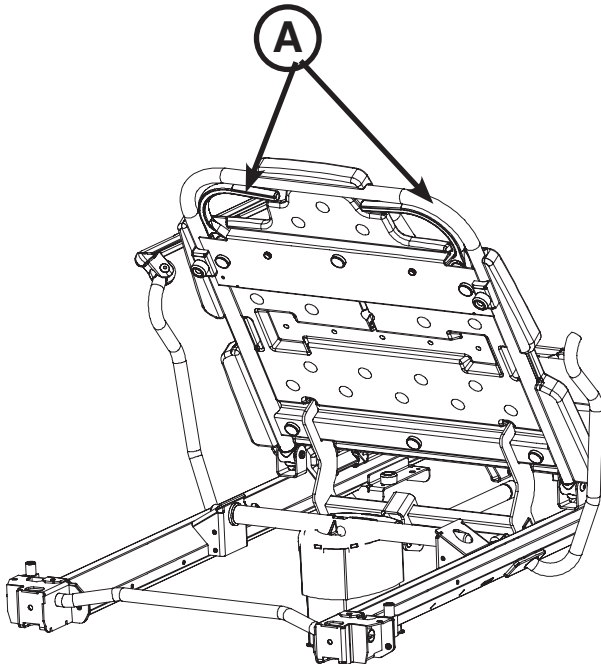

Figure 23: Pneumatic Fowler
To raise the fowler, squeeze either or both of the yellow fowler handles (A) for pneumatic assist until the fowler has reached the desired angle (between 0 and 90 degrees) as shown in Figures 23 and 24.
To lower the fowler, squeeze either or both of the yellow fowler handles (A) and push down until the fowler has reached the desired angle (between 90 and 0 degrees) as shown in Figures 23 and 24.